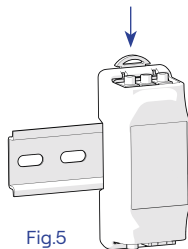

Fig.5
4. The CT box (codes: PM02M, PM02T, PM02T100) can be mounted on a DIN rail by pulling and releasing the designated clip (Fig. 5). The compact CT box (codes: PM03M, PM03T30, PM03T100) can simply be placed freely inside the electrical panel.